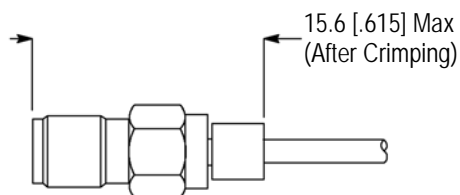

Figure 5
7. Remove the plug from the crimp tool, and inspect the plug according to Figure 5.